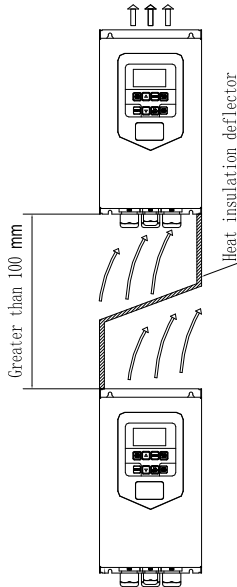

Figure 1-5. Installation Guide for the G630 Inverter
- 1) Vertical Installation: Always install the inverter vertically to allow heat to dissipate upwards. Never install it upside-down. When installing multiple inverters inside a cabinet, it is best to mount them side-by-side. If vertical stacking is necessary, refer to Figure 1-5 and ensure the use of thermal insulation guide plates.